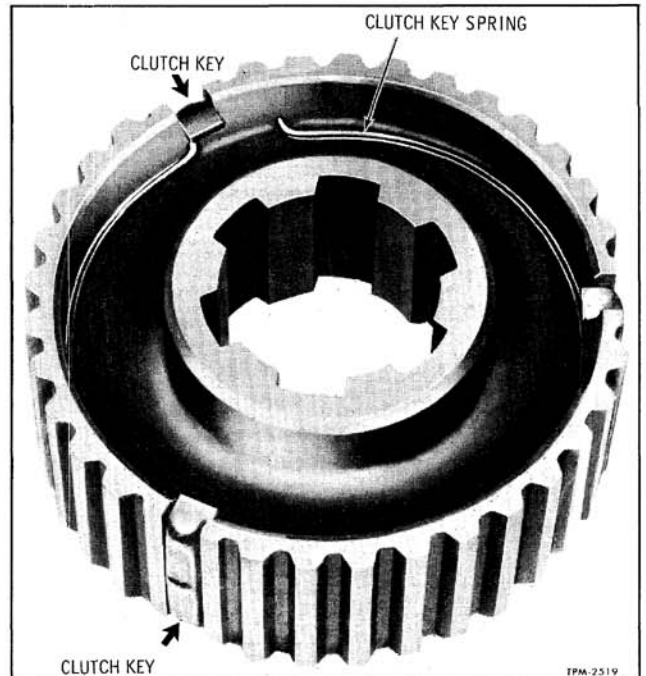

Fig. 7-41 Clutch Key and Spring Location
3. Remove two clutch key springs and three clutch keys from clutch hub. (Fig. 7-41)
8. Install clutch key springs in second and third speed clutch hub, with one end of each spring positioned in the same slot and the other end free. Place the three clutch keys in their respective slots in the hub. (Fig. 7-41)